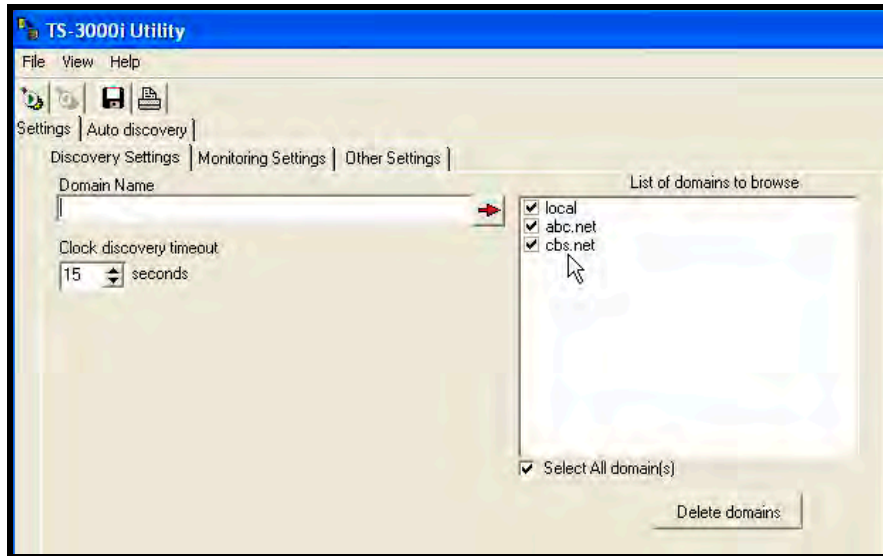

Figure 5-14: View Utility Settings - Discovery
- **Settings** – Use this function to enter discovery settings for Domain name to allow discovery in multiple domains. Also, set clock discovery timeout of TS-3000i Utility function. Domains can be deleted from the list to browse (see *Figure 5-14*).
Note – Each domain will be searched for the amount of time set in the “*Clock discovery timeout*” field before searching the next domain in the “*List of domains to browse*” list on the right (see figure 5-14 for an example).